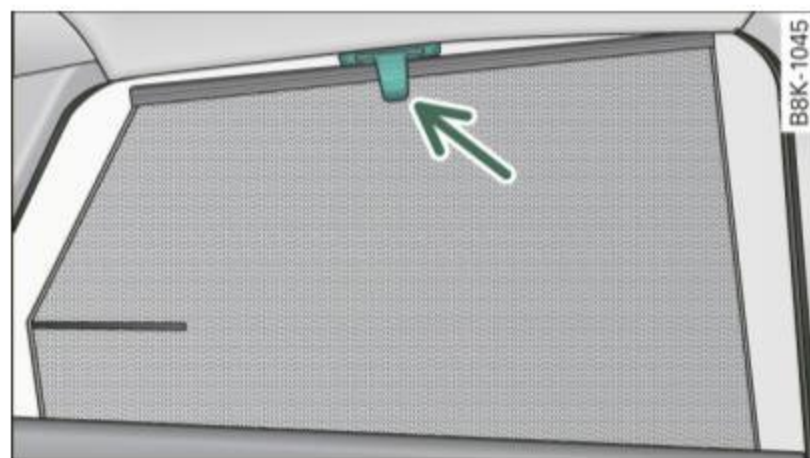

Fig. 59 Raised rear door sun shade
- Pull the shade out and hang it in the bracket on the upper door frame ⇒ fig. 59. ■